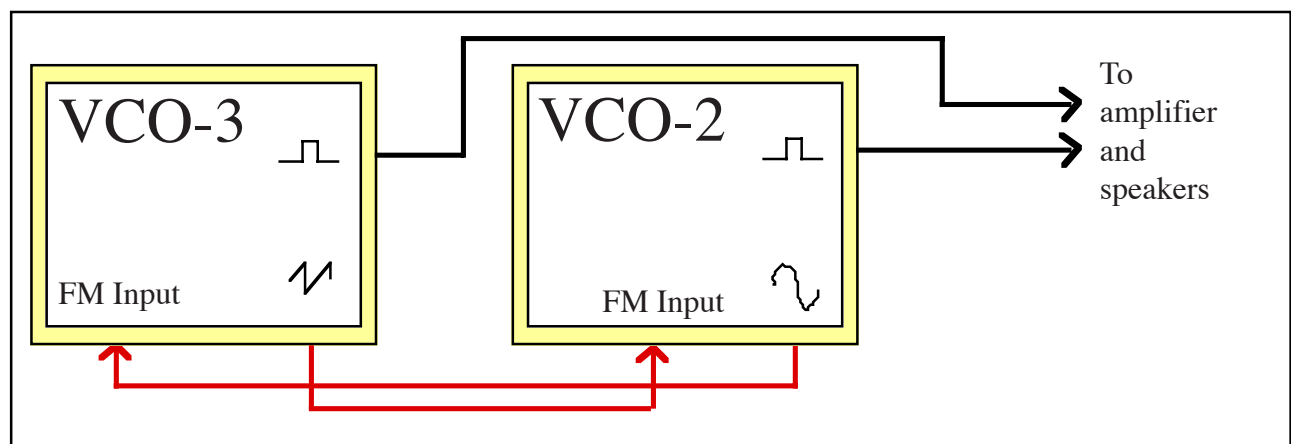

Figure 4-3: Cross modulation in action
sources specify certain connections of oscillators. For the purposes of this book, *cross modulation* will be defined as a patch in which two oscillators are both in the audio range, both are frequency modulating each other, and both can be heard. In Figure 4-3 on page 31, VCO-2 is modulating VCO-3. Meanwhile, VCO-3 is modulating VCO-2. Notice that both oscillators are in the audio range, and both are being heard.
Figure 4-3 shows both VCO's in light yellow because each functions as both a carrier and a modulator simultaneously. It would be incorrect to diagram them in either blue or green. While the results of double modulation are fairly predictable, the results of cross modulation are much less so. It is possible to produce clangorous, metallic sounds, which do not seem tuned. Take a moment to listen to **CD track 13**. Several different examples of cross modulation created with two VCO's can be heard.
2. Repeat #1, creating the cross modulation patch shown in Figure 4-3. **CD track 13**